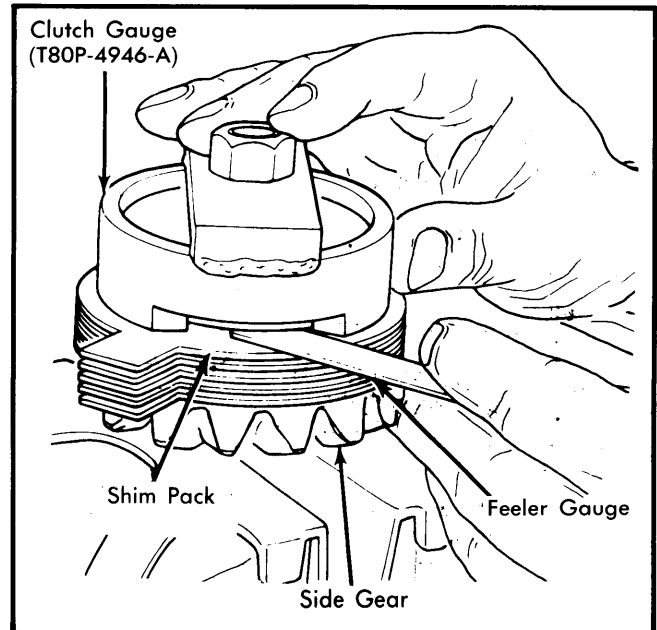

Fig. 4 Clutch Pack Installation
1) Pre-lubricate all clutch plates with gear lubricant. Assemble clutch plates on appropriate side gear, then install clutch gauge (T80P-4946-A) on side gear and clutch pack assembly. Using a feeler gauge, select thickest blade that will enter between gauge and clutch pack. See Fig. 4.